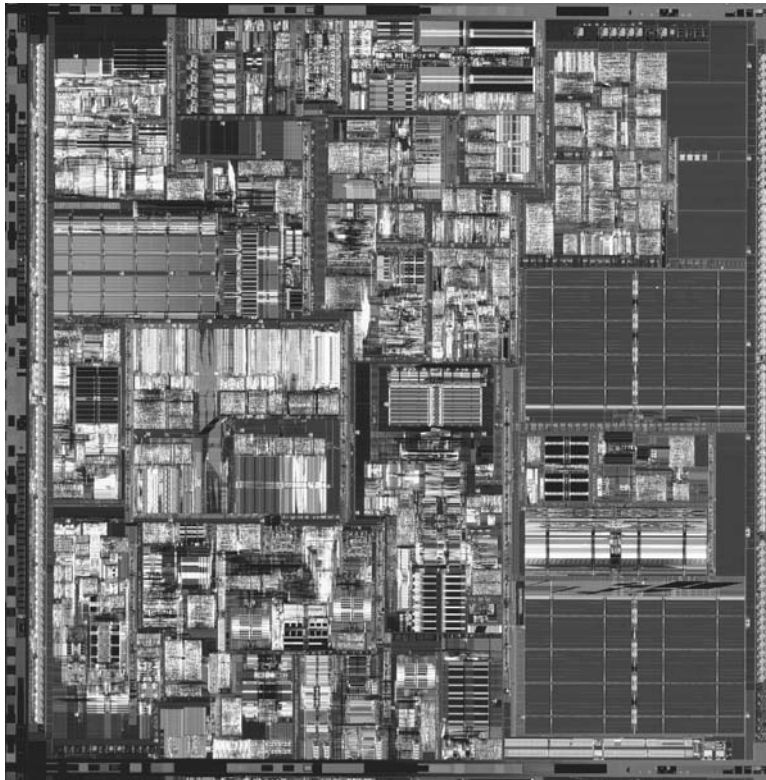

Figure 4.16 Pentium 4 Northwood die (0.13-micron process, 55 million transistors, 131mm²).
- 55 million transistors, 0.13-micron process, 131mm² die (Northwood, see Figure 4.16)
- 77 million transistors, 0.13-micron process, and 84mm² die (Northwood, see Figure 4.16)